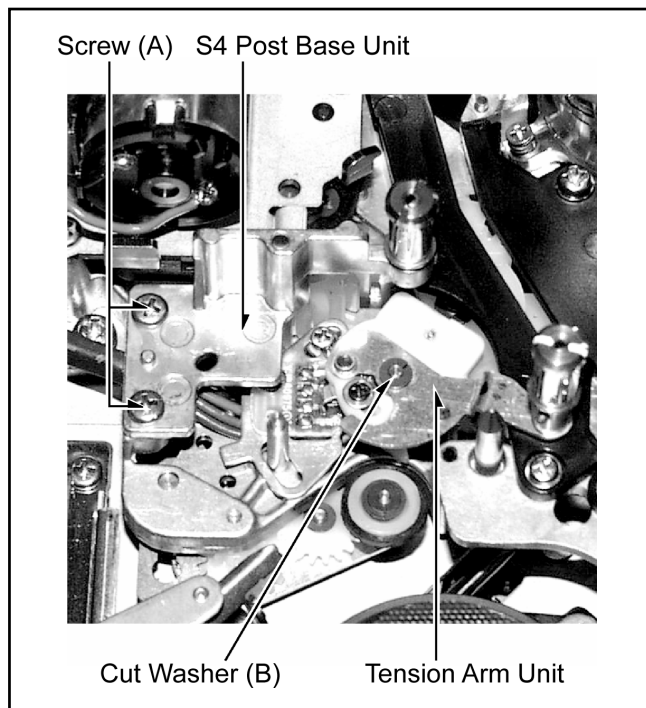

Figure 2-11
2. Remove the Cut Washer (B) and Tension Spring as shown in figure 2-11, and remove the Tension Arm Unit.